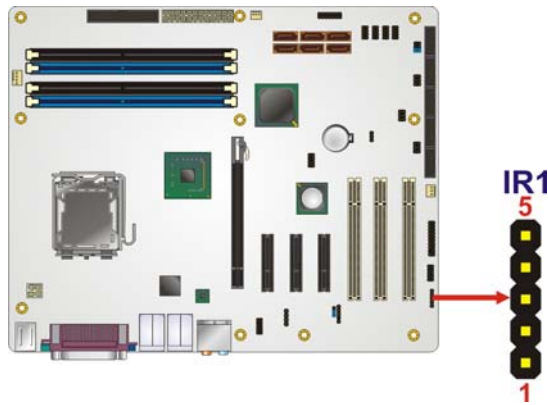

Figure 4-11: Infrared Connector Pinout Locations
- CN Location:** See **Figure 4-11**